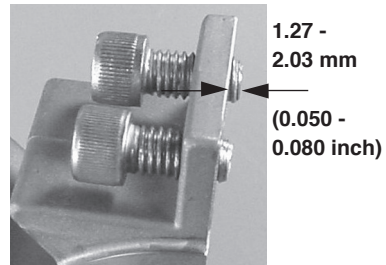

Figure 17
- 7.2 Lightly coat the gland cap screws with anti-seize and thread them through the retainer sleeves until they protrude 1.27 to 2.03 mm (0.050 to 0.080 inch) past the gland joint. See Figure 17.